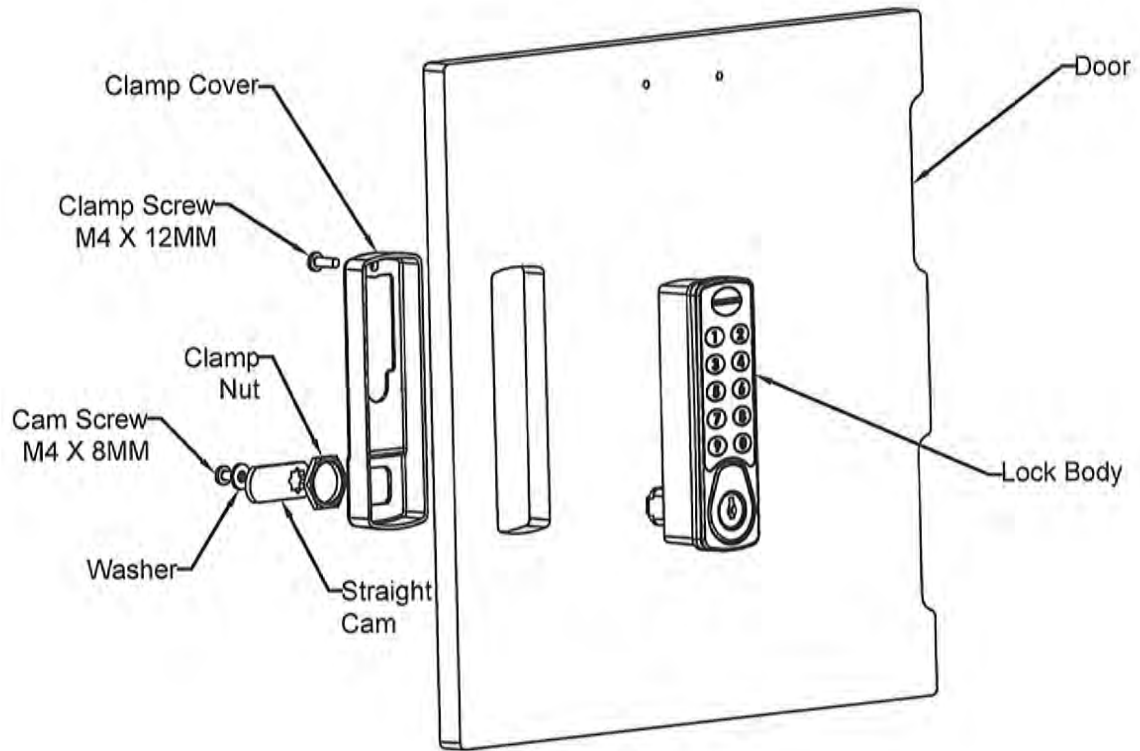

Figure 13.2 DigiTech H1 Lock Installation
- 13.2 Insert Lock Body through the cutout in the Door with the key end towards the bottom of the locker Door. See figure 13.2
- 13.3 Insert Clamp Cover on Lock Body and fasten with Clamp Nut and Clamp Screw. See figure 13.2
- 13.4 Insert Straight Cam on lock, fasten with Cam Screw and Washer, see Figure 13.2. Note, Staright Cam is not included with lock, it ships separately.